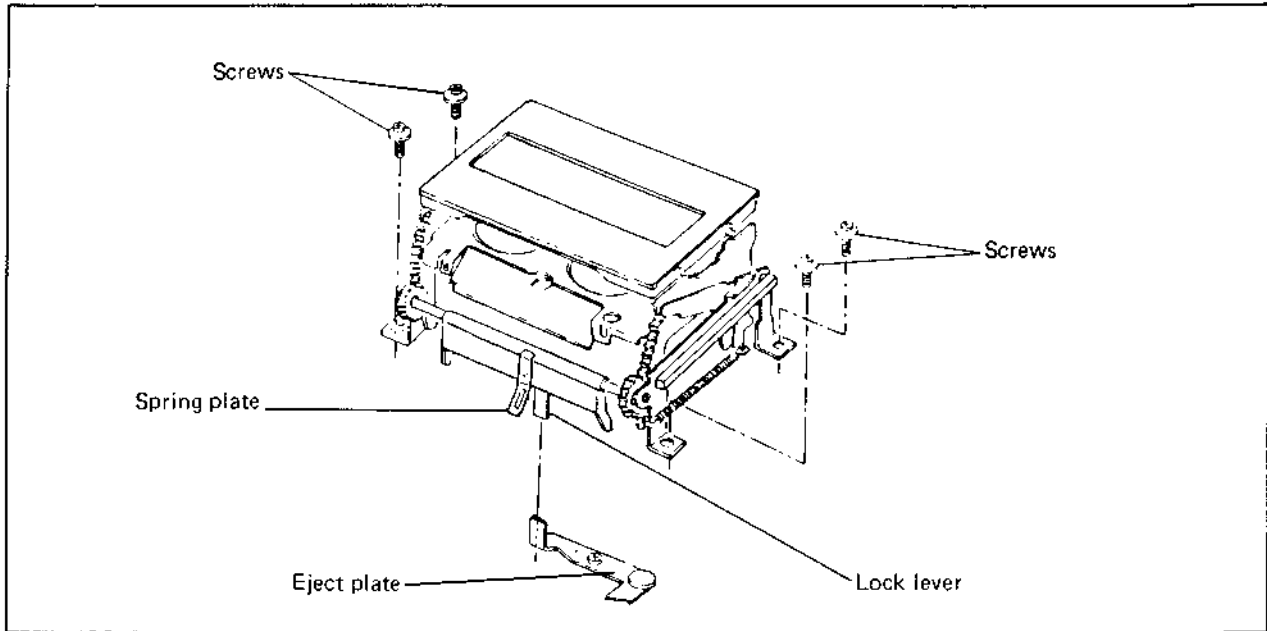

Fig. 4-4 Replacement of cassette housing
3. With the housing in the raised configuration, set the housing so that its lock lever is in front of the eject plate and the spring plate is at the rear of the function button case. Install the 4 left and right side screws, but do not tighten them firmly at this time. Use care not to disengage the counter belt. (See Fig. 4-4.)